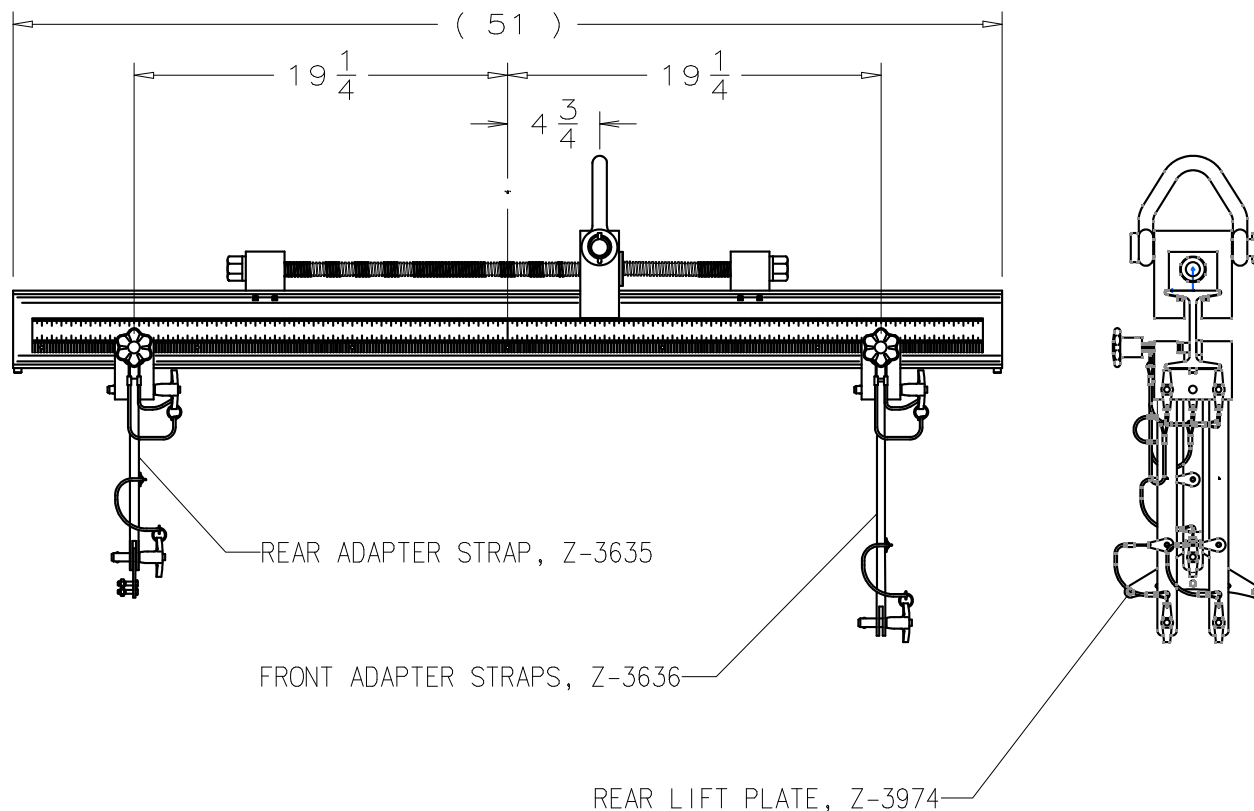

FIGURE 1
1. Locate the slide blocks on the engine sling bar assembly with the front slide block located at 19 1/4 inches forward of zero point. Locate the rear slide block at 19 1/4 inches aft of zero point and position the lift point at 4 3/4 inches forward of zero point. Ensure that all lifting straps have been securely installed into the slide blocks (**see Figure 1**). The strap kit retaining ring may be placed into one of the unused holes in either of the slide blocks for storage.